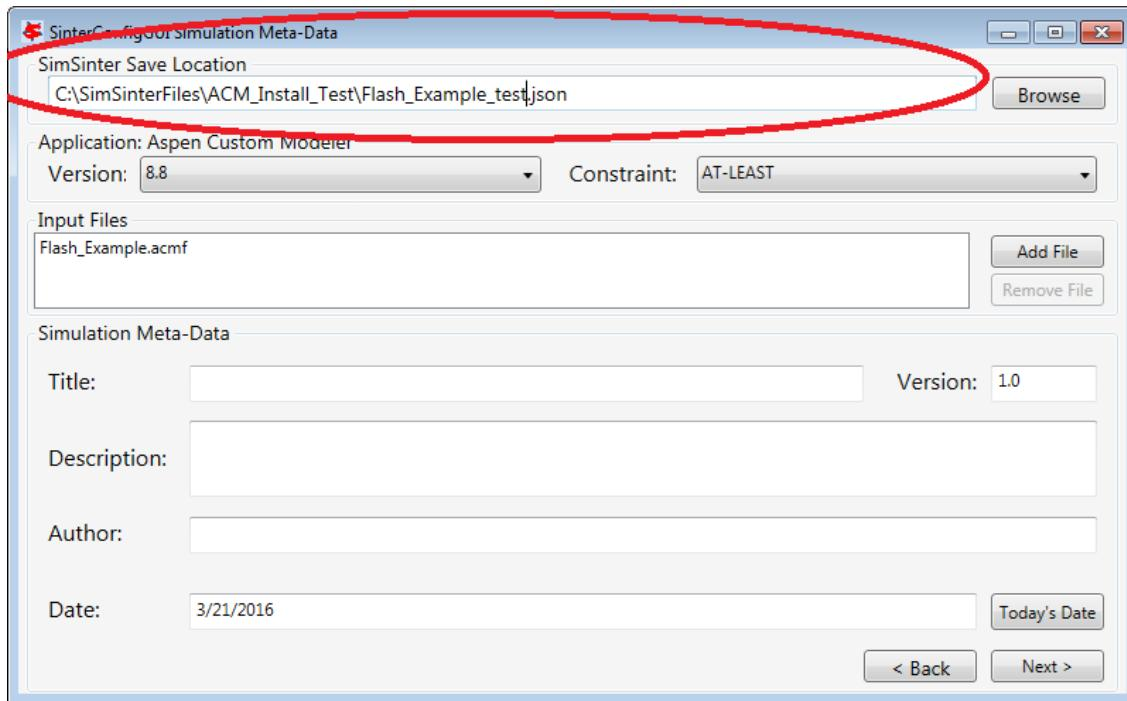

Figure 4: SimSinter Save Location.
4. The SinterConfigGUI Simulation Meta-Data window displays as shown in Figure 4, and ACM has started up in the background. This is so the user can observe things about the simulation in question as they work on the configuration file. The first and most important piece of meta-data is the “SimSinter Save Location” at the top of the window. This is where the Sinter configuration file is saved. The system suggests a file location and name. SimSinter automatically saves changes to this file. If the built in test files are being used for this tutorial, it is recommend that the name of the save file be changed before proceeding to avoid overwriting the configuration that came with the installation.